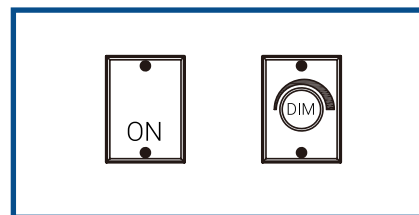

FIG. 5
6. Turn on power and light switch to activate the luminaire. (FIG. 5)